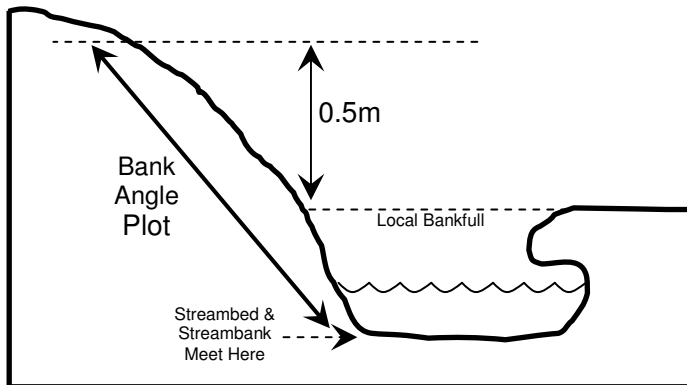

Figure 20. Bank angle plot when flat depositional feature is absent. The upper limit of bank stability plot is 0.5m above the bankfull elevation.
- If this feature is not present, upper limit is 0.5m above the local bankfull elevation (see Figure 20 below).